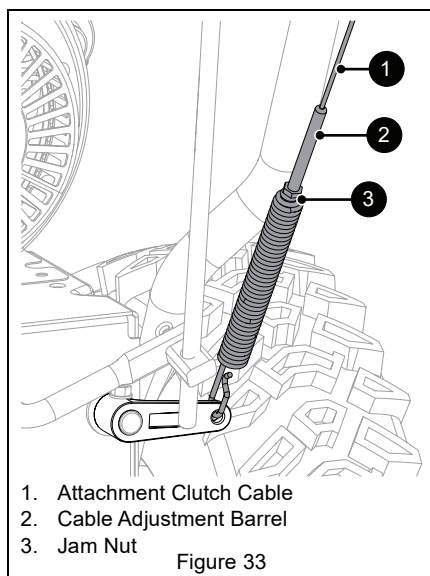

Figure 33
4. Loosen jam nut on cable adjustment barrel, and then turn the adjustment barrel down to shorten cable and remove cable slack. See Figure 33.
5. Tighten jam nut on cable adjustment barrel. See Figure 33.